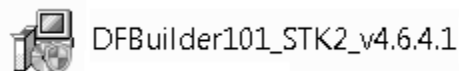

Figure 2.1.1 Icon of DebugFactory Builder for MN101\_STK2
1. Double-click the icon of DebugFactory Builder for MN101\_STK2 (DFBuilder101\_STK2\_v4.6.4.1.EXE) which has been downloaded, and start the DebugFactory Builder for MN101\_STK2. (Refer to Figure 2.1.1.)